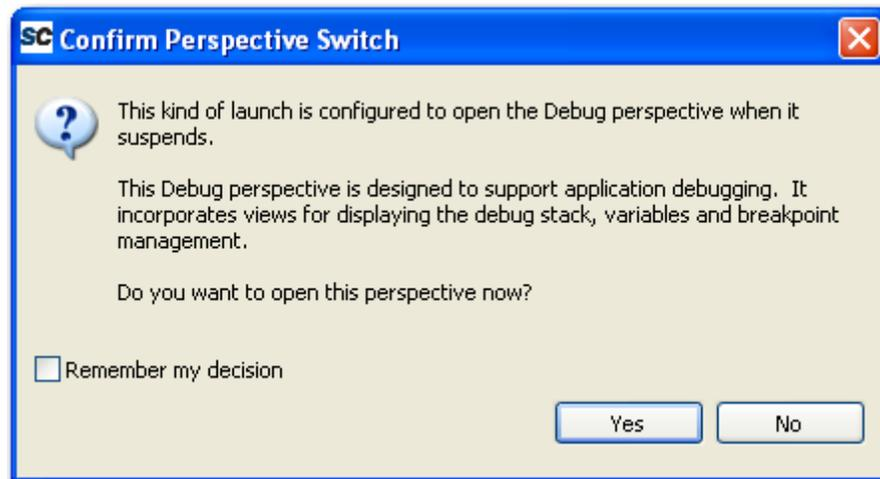

Figure 3-6 · Confirming the Perspective Switch
4. After the file loads, the Debug window will disappear and the Confirm Perspective Switch window will open. Click the Yes button (Figure 3-6). The debug perspective will open.